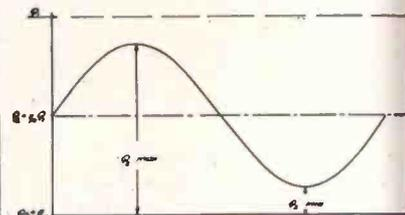

Fig. 4—Sinusoidal variation of transmitted light
$\frac{\sin \pi f H}{\pi f H}$ is a constant. From Eq. (3), therefore, it is apparent that scanning a recorded sine wave cycle will cause Q_2 to vary sinusoidally about an average value which is placed a distance $Q_1 y_m$ from the $Q_2 = 0$ line, as illustrated in Fig. 4. The maximum value of Q_2 must occur when $\sin \phi = 1$, or at $\phi = \pi/2$; the minimum value of Q_2 must occur when $\sin \phi = -1$, or at $\phi = 3\pi/2$.
A WELL KNOWN CIRCUIT of the relaxation oscillator is incorporated in the design of a pulse relay called a relaxation amplifier. It is described in an article by Dr. Martin Wald in *The Wireless Engineer* of December, 1941. With the addition of a diode rectifier to a two tube relaxation oscillator of Ham and Block, an interesting circuit results, called a relaxation amplifier by the author. The diode is inserted between the output and input, (see Fig. 4) so that the feedback current can pass in one direction and no oscillation occurs. Should any small voltage pulse be impressed on the input with a positive polarity, relaxation oscillation will be produced. These oscillations, however, will be interrupted as soon as current through the diode rectifier attempts to change its direction, that is, after a half cycle. For maximum sensitivity and stable operation, the feedback through the capacitor is neutralized by means of a condenser C_n . The operating